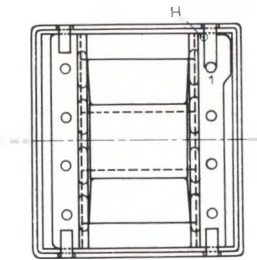
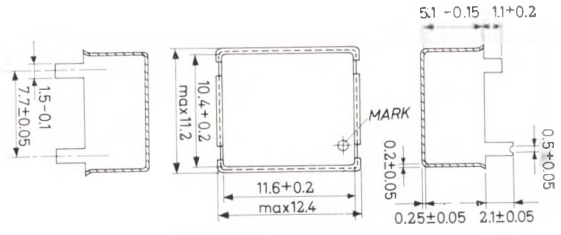

Fig. 6
Fig. 8
As mentioned above, the number of component parts has been reduced to the bare minimum. With two parts in all a complete transformer can be produced ready for mounting on a printed circuit. The screening can (Fig. 8) for meeting severe cross talk requirements adds up to three parts:
1. wind the copper wire on the H part. For speeding up the soldering operation of the winding wire to the terminals, the use of self fluxing wire is advised. In case a terminal of the winding must be connected to the screening can it should be soldered to tag 1. The side of the coil former where the soldering tags protrude is asymmetrical providing a means for numbering the connections (see Fig. 6 and 7);
5. in case a can is used (for H10 see Fig. 8) place the core assembly in the can in such a way that the marked pin 1 is situated over the hole H in the bottom of the can (Figs. 6 and 7). When the screen must be connected to earth fold-over the four ears and solder the longest ear to pin 1. When the screen must not be connected to
When the screening can is properly placed on the assembled core, terminal 1 is located near hole H in the can (see Figs. 6 and 7); this facilitates the correct positioning of the transformer during assembling the equipment in which the transformer is used.